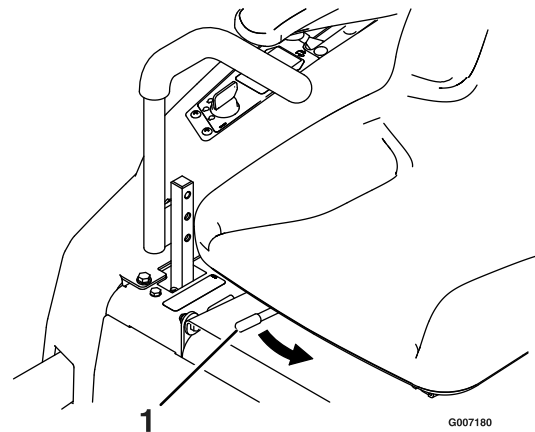

Figure 13
1. Push the adjustment lever towards the center of the machine to release the seat adjuster track (Figure 13).